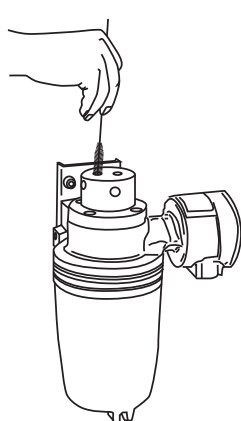

Figure 5.1 Cleaning the Vibrator
- (1) Close valves BV1 and NV4 and open NV2 and NV3.
- (2) Connect the air pipe to the outlet of the needle valve NV2. Purge the sample liquid in the vibrator from the drain port of the needle valve NV3 by blowing 0.05 MPa G air.
- (3) Remove the blind plugs from the pouring port of the standard solution (two places) and pour cleaning liquid about 200 ml into the vibrator.
- (4) After a while, fix blind plugs again on the pouring ports and purge the cleaning liquid in the vibrator as described in (2). Wash the inside of the vibrator pipe with a brush (accessory) as shown in Figure 5.1.